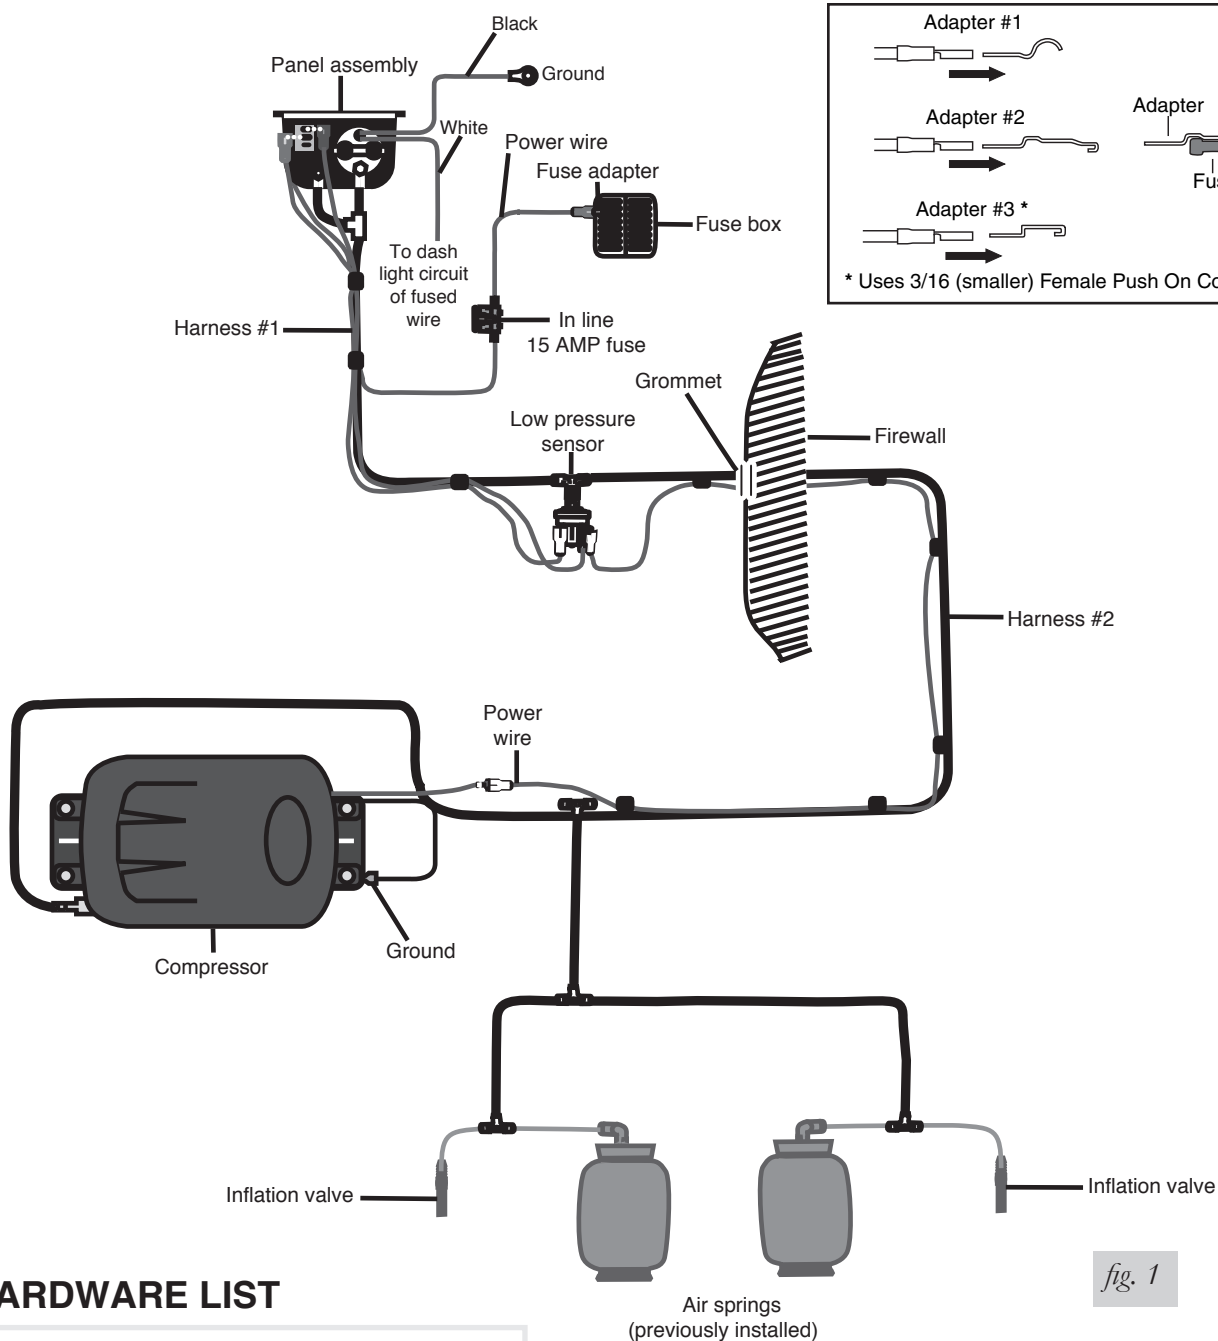

fig. 1
Attach the ground wire to one of the screws (fig. 1).
7. The next connection is between each air spring and the air line “T” fitting located just ahead of the check valves in harness #2, near the compressor (fig. 1 and 7).
- b. Install the provided “T” fittings (fig. 1) by pushing the air line into each leg of the “T” until you feel a definite “click”. Each line should go in 9/16”.
- c. Connection to the fuse terminal will depend on what type of fuse your vehicle uses. If your vehicle uses the barrel type fuse, use adapter #1. If you have the standard spade type fuses, use adapter #2. Many late model vehicles use a smaller spade type fuse which requires adapter #3 (see inset with fig. 1). If adapter #1 or #2 are used, it will be necessary to cut off the 1/4” female connector attached to the power wire and crimp the smaller 3/16” female connector supplied with this kit.
- b. Ground the black wire to an adequate ground. Use the additional wire and connectors supplied if longer leads are needed (fig. 1).